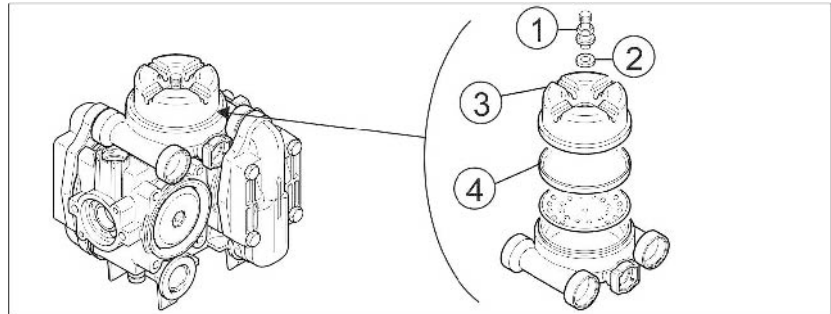

Fig. 202
From time to time, check the seating of the slider (Fig. 202/7).
- To do this, insert the slider into the nozzle body (Fig. 202/2) as far as possible using moderate thumb pressure.
1. Insert the nozzle filter (Fig. 202/1) into the nozzle body (Fig. 202/2) from below.
2. Insert the nozzle (Fig. 202/3) into the bayonet nut (Fig. 202/4)
3. Insert the rubber seal (Fig. 202/5) above the nozzle.
Deposits on the diaphragm seat (Fig. 202/6) can cause the nozzles to drip after the boom is shut-off. If this occurs, clean the diaphragm in question as follows:
1. Pull the slider (Fig. 202/7) out of the nozzle body (Fig. 202/2) towards the bayonet nut.
2. Remove the spring element (Fig. 202/8) and the diaphragm (Fig. 202/9).
3. Clean the diaphragm seat (Fig. 202/6).
Note the correct orientation for installing the spring element. For installation, the stepped, upwards-sloping edges on the left and right of the housing of the spring element (Fig. 202/10) must slope up in the direction of the boom profile.